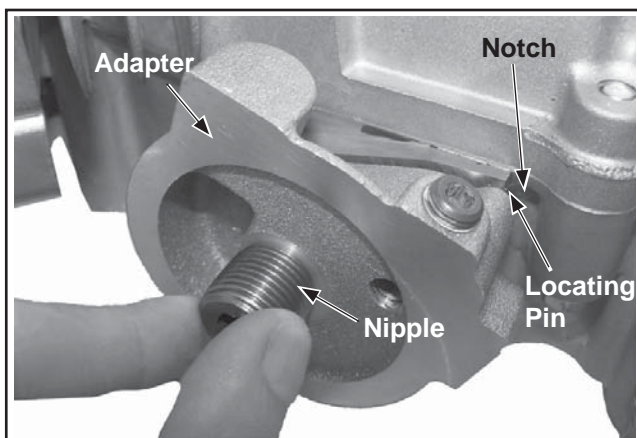

Figure 8-4. Removing Oil Filter Adapter.
4. Use an allen wrench to loosen the adapter nipple. Note the locating pin of the adapter and corresponding notch in the pad of the oil pan. Remove the nipple, washer (plastic adapters only), and oil filter adapter. See Figure 8-4.